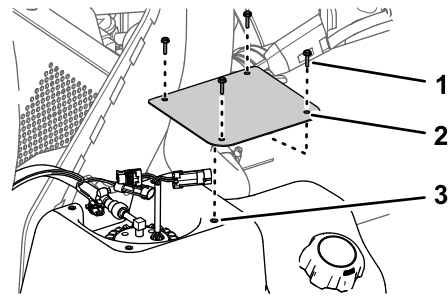

Figure 122
1. Assemble the cover to the tank (Figure 122) with the 4 screws (#10 x 3/4 inch) that you removed in step 2 of Removing the Fuel Pump Cover (page 67).